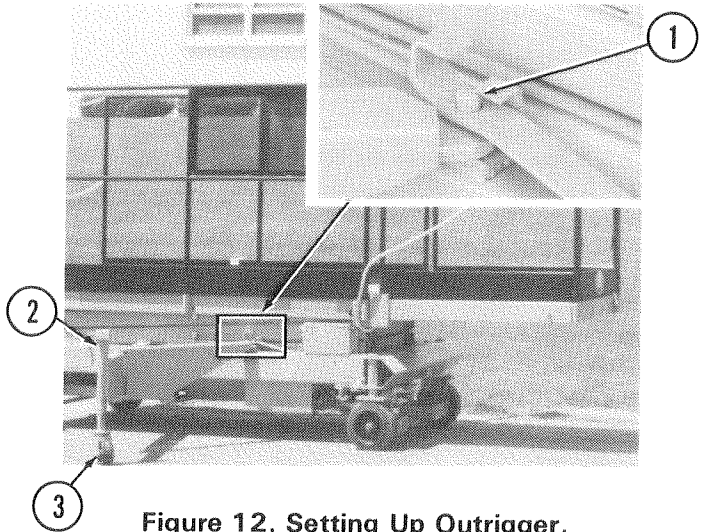

Figure 12. Setting Up Outrigger.
- a. Lift latch at rear of base frame and swing outrigger until it latches in fully extended position, (1) Figure 12.
- b. Turn jack handle (2) until wheel makes solid contact to surface, (3) Figure 12.